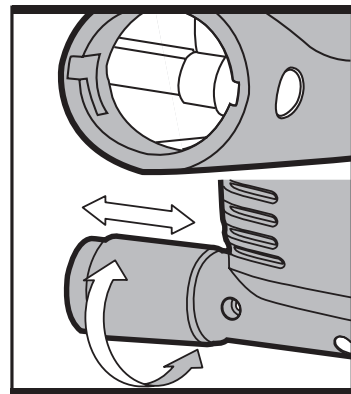

Fig 10
The adapter (12) rotates counter-clockwise inside the housing and locks into position through the use of a groove inside the housing (See Fig 10). The adapter must then be connected to a suitable external dust extraction machine.